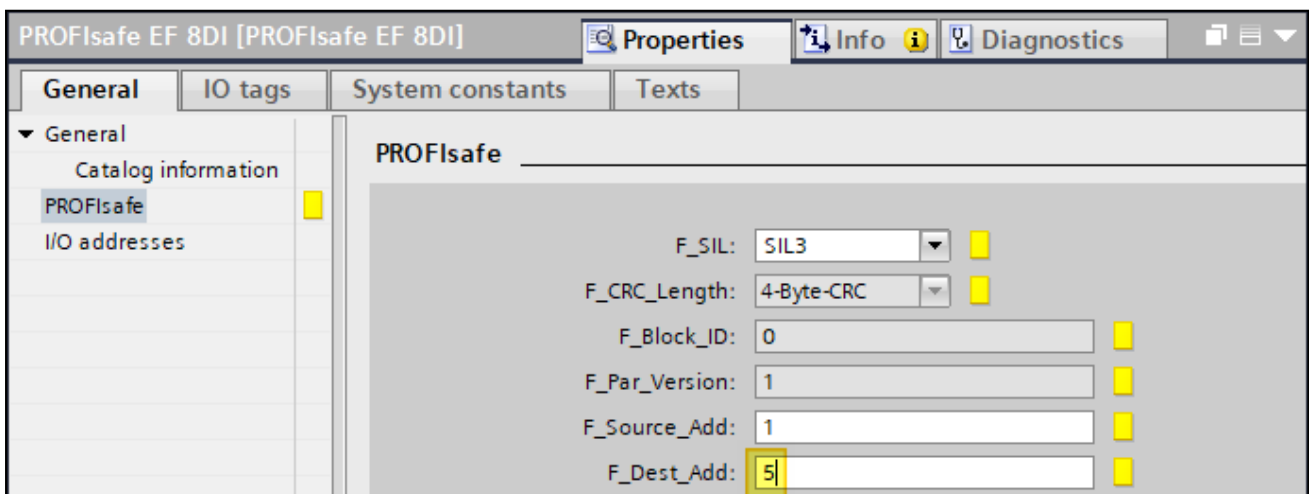

Figure 42: TIA – PROFIsafe-Groups » Setting up of PROFIsafe addresses 'F_Dest_Add'
- a. in the TIA tool under the properties of the 'PROFIsafe' submodule(s) of the PSS u2 head module (Figure 42 [30]) and